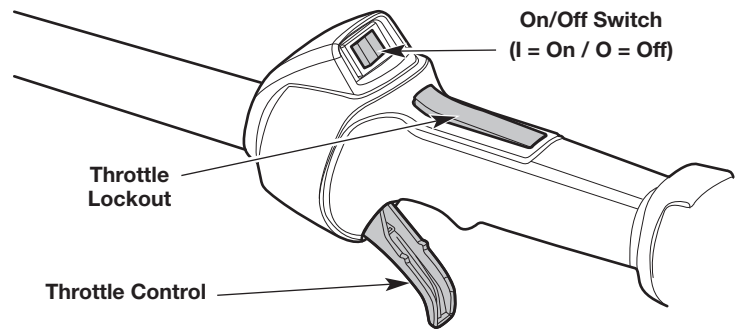

Fig. 5
NOTE: There is no need to turn the unit on. The On/Off switch is in the **On (I)** position at all times (Fig. 5).
4. Press and hold the throttle lockout. Squeeze and hold the throttle control (Fig. 5).
2. Press and hold the On/Off switch in the **Off (O)** position until the engine comes to a complete stop (Fig. 5).
5. Press and hold the throttle lockout. Squeeze and hold the throttle control (Fig. 5).